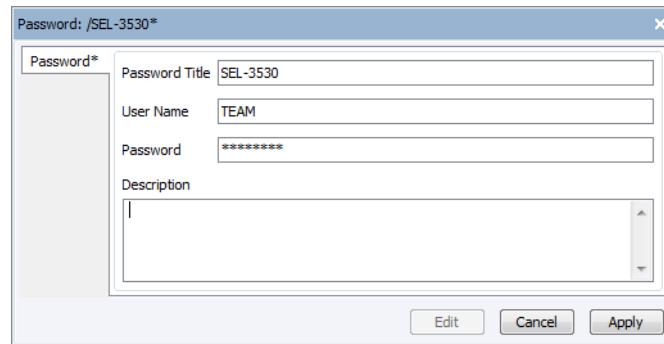

Figure 143 Configure the RTAC Password
- Step 8. Change the **Password Title** to **SEL-3530** and enter the **User Name** and **Password** of an account on the RTAC, as shown in *Figure 143*. Select **Apply**.